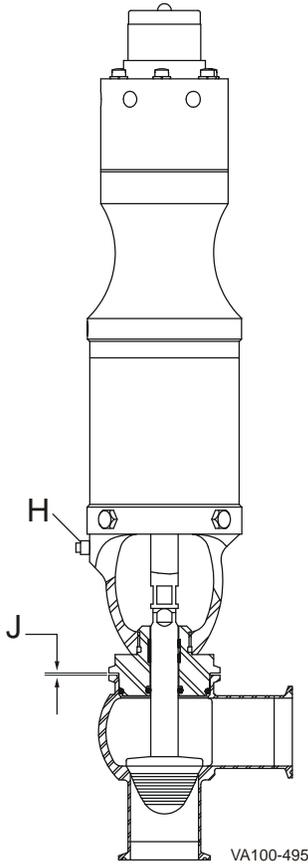
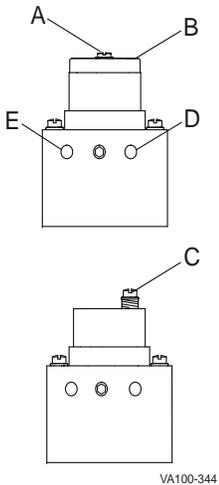
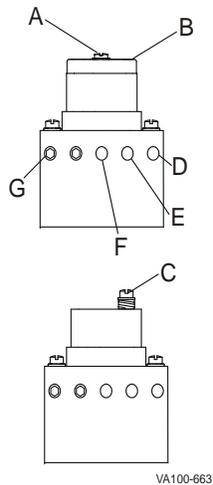

Figure 42 : Body to Adapter Gap
Figure 43 : Air-to-Lower
Figure 44 : Air-to-Raise
A zero adjustment is made to the Moore Positioner to provide proper seat compression. The zero-adjusting screw (Figure 43 and Figure 44, item C) is located under the top cover (item B) of the Moore Positioner. For air-to-raise units, air from the "valve" port (Figure 44, item F) is connected to the yoke air port, Figure 42, item H.
1. Apply 50-75 psi (3.4-5.2 bar) of air pressure to the positioner "supply" air port (Figure 43 and Figure 44, item D).
2. Remove the cover cap screw (Figure 43 and Figure 44, item A).
3. Remove the cover (Figure 43 and Figure 44, item B) to access the zero-adjusting screw (item C).
Apply 3 psi (0.2 bar) of air pressure for air-to-raise actuators, OR 15 psi (1.0 bar) of air pressure for air-to-lower actuators, to the positioner "instrument" air port (Figure 43 and Figure 44, item E).
Apply 3 psi (0.2 bar) of air pressure for air-to-lower actuators, OR 15 psi (1.0 bar) of air pressure for air-to-raise actuators, to the positioner "instrument" air port (Figure 43 and Figure 44, item E).
5. Turn the zero-adjusting screw counter-clockwise to extend the valve stem and achieve a 0.062 ± 0.31 (1.575 \pm 0.787 mm) dimension (Figure 42, item J).
NOTE: For Air-to-Air, use Air-to-Raise (see Figure 44). The second air supply is plumbed to the "load" port, item G.